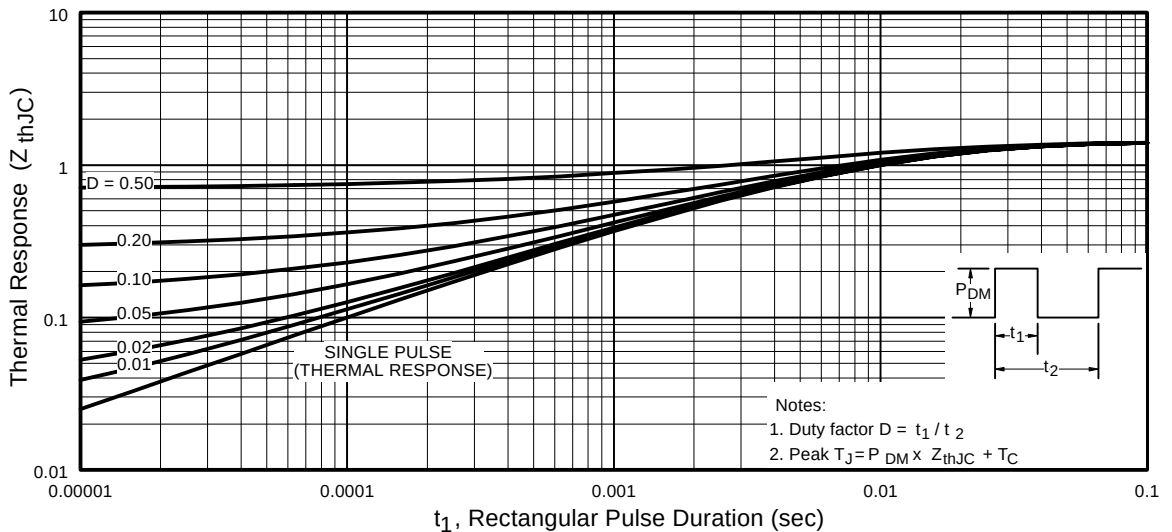

Fig 11. Maximum Effective Transient Thermal Impedance, Junction-to-Case
- ① Repetitive rating; pulse width limited by max. junction temperature. (See fig. 11)
- ② $V_{DD} = 15V$, starting $T_J = 25^\circ C$, $L = 300\mu H$